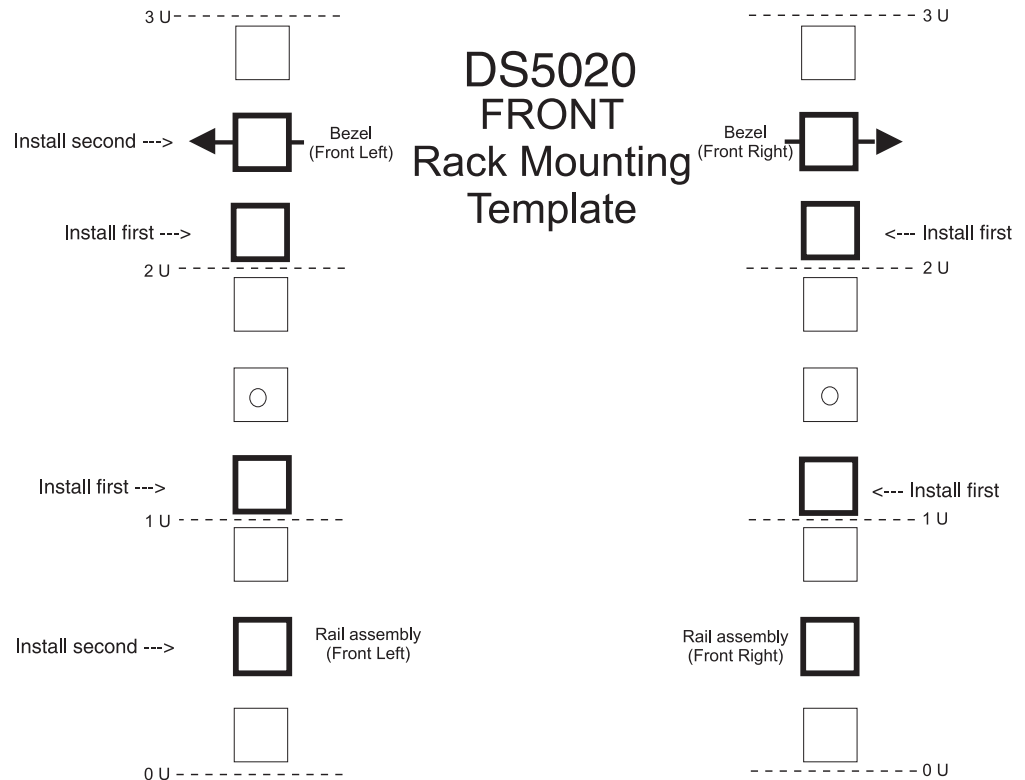
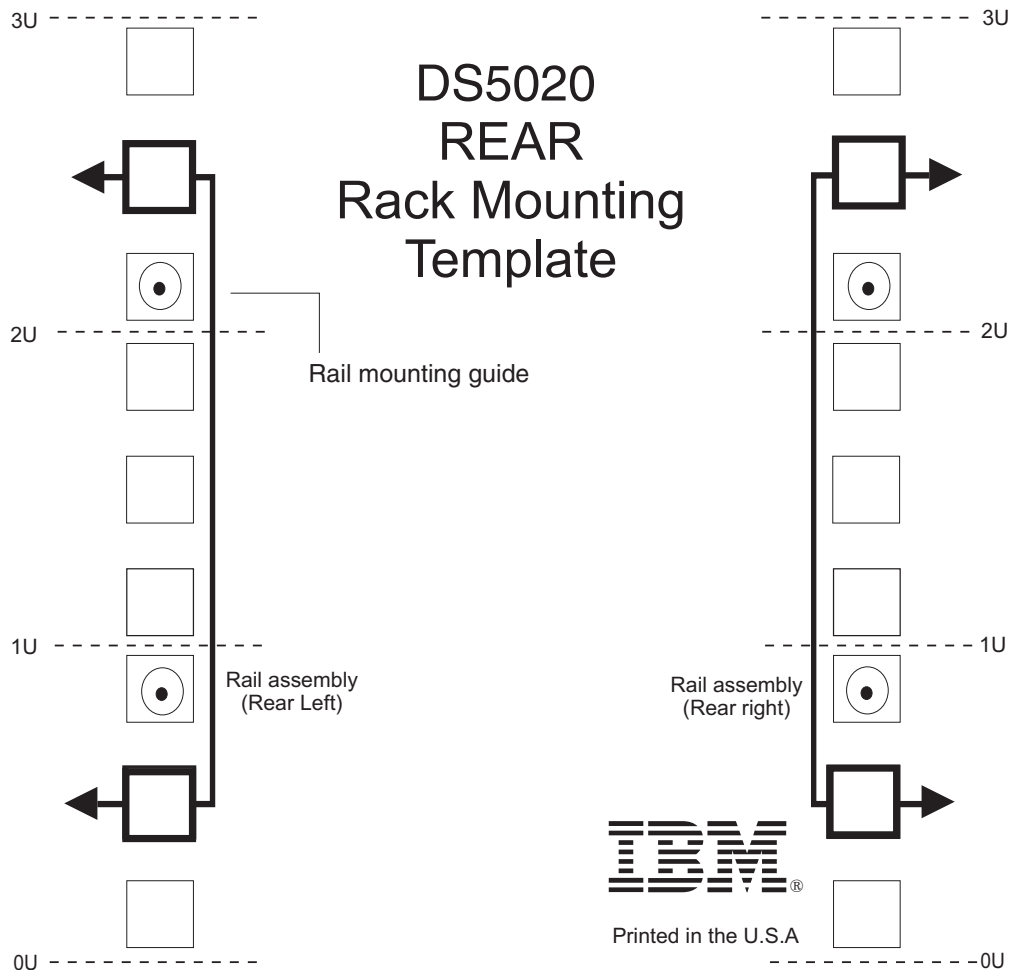

Figure 13. Front rack mounting template
Figure 14. Rear rack mounting template
Use the following templates (Figure 13 and Figure 14 on page 34) to identify the proper locations for inserting M5 screws when mounting the support rails and DS5020 storage subsystem to a rack cabinet. The locations for the M5 screws are highlighted in the templates.
Important: Duplicate copies of the rack mounting templates are provided in Appendix B, “Rack mounting templates,” on page 167. If you want to tear out the templates from this document, use the copies in Appendix B, “Rack mounting templates,” on page 167. Use the preceding templates (Figure 13 on page 33 and Figure 14 on page 34) to identify the proper locations for inserting M5 screws when mounting the support rails and DS5020 storage subsystem to a rack cabinet. The locations for the M5 screws are highlighted in the templates.
- The lip on the rail lines up with the bottom of the storage subsystem (the 0U boundary in Figure 14 on page 34).
Note: Be sure to install the screw labeled *install first* in Figure 13 on page 33.